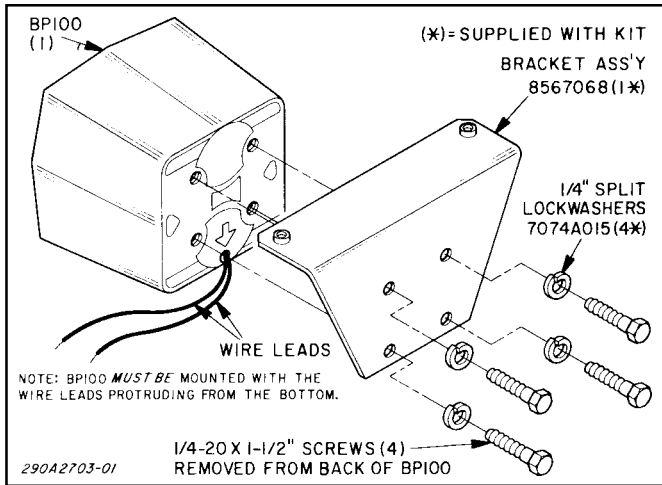

Figure 1.
2. Assemble the bracket to the speaker using four 1/4" split lockwashers and previously removed screws as shown in figure 1.